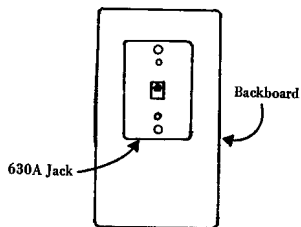

FIGURE 8. 191B Backboard
2.10 191B Backboard (Figure 8): This backboard is designed to act as a frame around the 630A jack. It is used to cover up wall imperfections adjacent to the jack. It is held in place by a self-adhesive backing.